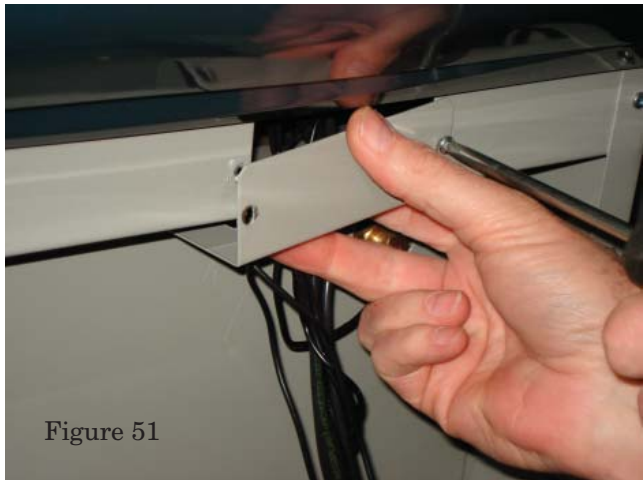

Figure 51
11. Replace the strain relief access panel, close and secure the control box, and replace the front and top boiler panels. Restore power and check out limit switch operation per boiler installation instructions. See Figure 51.
To open the front panel, see the sequence in Figure 51. At top of front panel, pull edges of the panel forward. The panel will rotate on bottom hinge brackets. Then remove panel off of hinges at bottom of the panel by lifting upwards.